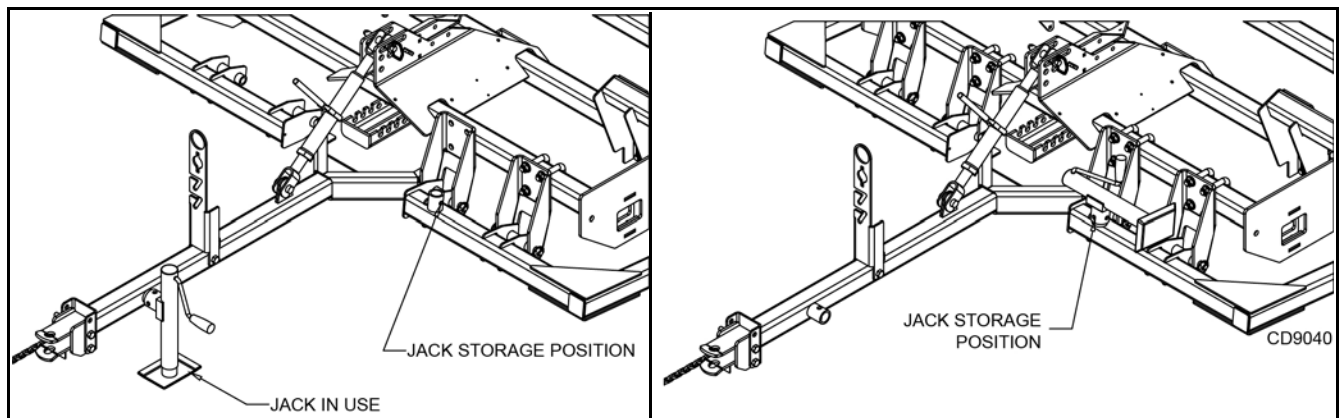

Figure 11. Jack Positions
7. Pin the jack to the storage tube on the top of the left wheel arm. This location prevents accidental contact from the rear tractor tire, which could result in damage to the jack. See Figure 11.